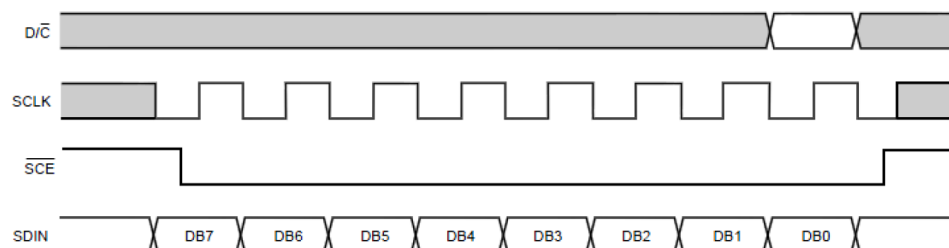

Figure 4: How the DC signal is timed with the SPI signals
The Nokia 5110 uses SPI signals to receive commands, text, and images to be displayed. As to be noticed in Figure 4 on the SPI signals that there is only one data output signal. The LCD somehow, needs to distinguish whether the data being sent is data meant to be displayed, or if it is a command meant to control the screen. This is done not through the SPI module, but “manually” through a GPIO pin. The Nokia screen has a pin named Data/Command (DC). When the DC signal is low, the Nokia interprets the incoming SPI bits as a command. Similarly, if the DC signal is high, the SPI bits are interpreted as data to be displayed. The DC signal can be set high or low long before the last bit is sent.